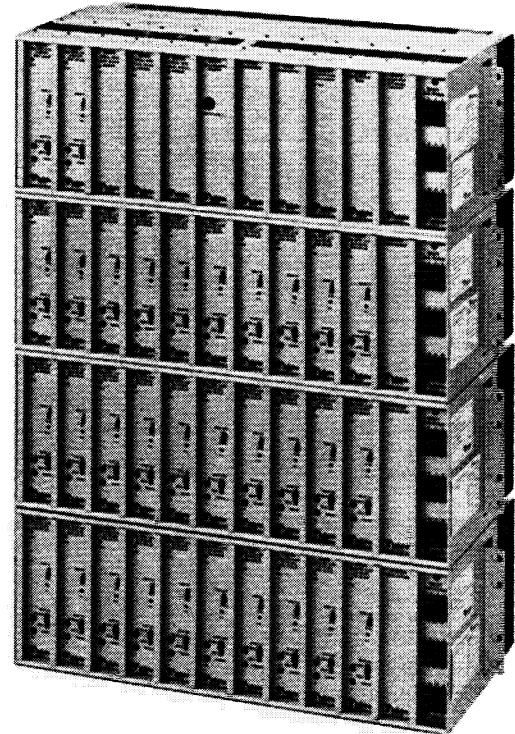

figure 1. 292R Conference/Alerting System
1.01 The Tellabs 292R Conference/Alerting System (figure 1) is a multistation ringdown telephone conference circuit designed primarily for use in local emergency reporting and alerting applications and in business conferencing applications. The 292R System provides simultaneous access to up to 60 local stations (see note below) either from a dedicated telephone (i.e., a "master" station) or from any local telephone line via a listed directory number. Conferees are provided with emergency conference capability at their everyday home or business telephones with no disruption of normal telephone service except during an emergency call. All stations assigned to the conference network are signaled via a distinctive ringing format on conference calls. The 292R System can be used with any conventional Class 5 or FCC-registered PBX switching system. Services provided by the 292R System are typically used by paramedic teams, airport emergency crews, banks, stores, factories with multiple branch locations, and the like.